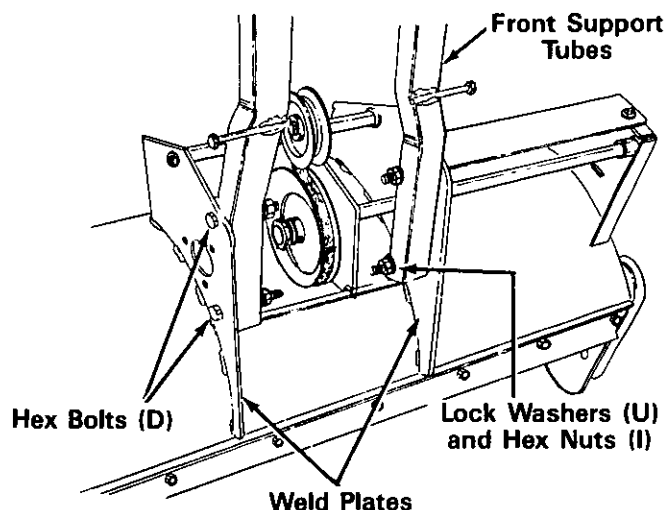

FIGURE 4
4. Assemble the preassembled front support tubes to the snow thrower housing. Place the front support tube against weld plates on housing. Assemble to the inside of weld plate. Secure with hex bolts (D), lock washers (U) and hex nuts (I). See figure 4. An adjustable wrench and a 3/4" wrench are required. **Tighten securely.**